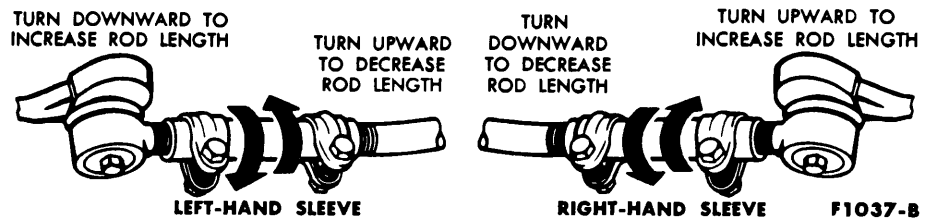
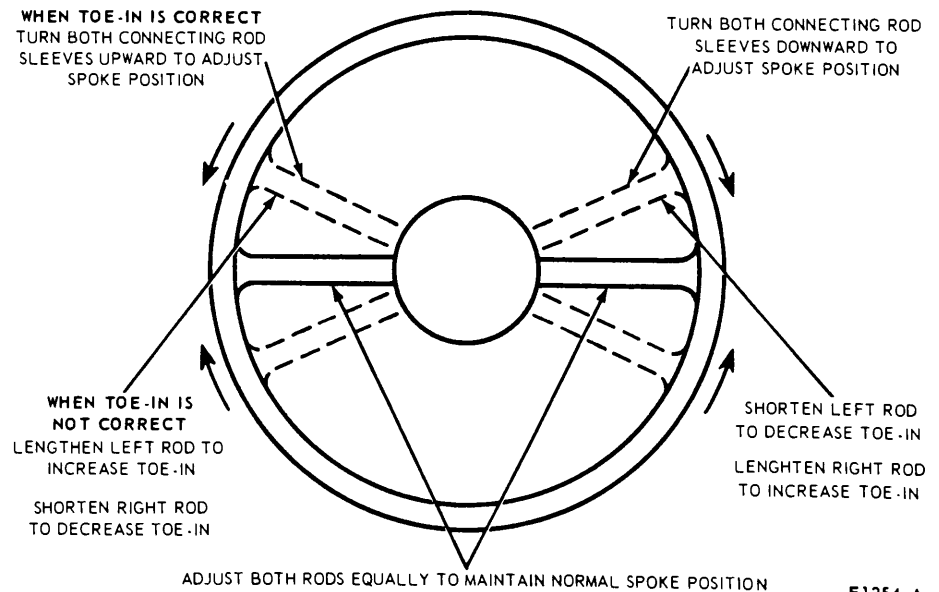

FIG. 9—Spindle Connecting Rod Adjustments
FIG. 10—Toe-In and Steering Wheel Spoke Alignment Adjustment
1. Loosen the two clamp bolts on each spindle connecting rod sleeve (Fig. 9).
2. Adjust toe-in. If the steering wheel spokes are in their normal position, lengthen or shorten both rods equally to obtain correct toe-in (Fig. 9). If the steering wheel spokes are not in their normal position, make the necessary rod adjustments to obtain correct toe-in and steering wheel spoke alignment (Fig. 10).
3. Recheck toe-in and the steering wheel spoke position. If toe-in is correct and the steering wheel spokes are still not in their normal position, turn both connecting rod sleeves upward or downward the same number of turns to move the steering wheel spokes (Fig. 9).